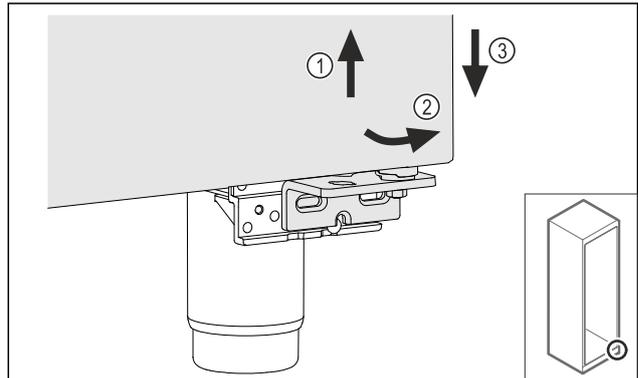

Fig. 16
- ▶ Lift the door slightly Fig. 16 (1), tilt it forwards at the bottom Fig. 16 (2) and lower it Fig. 16 (3).